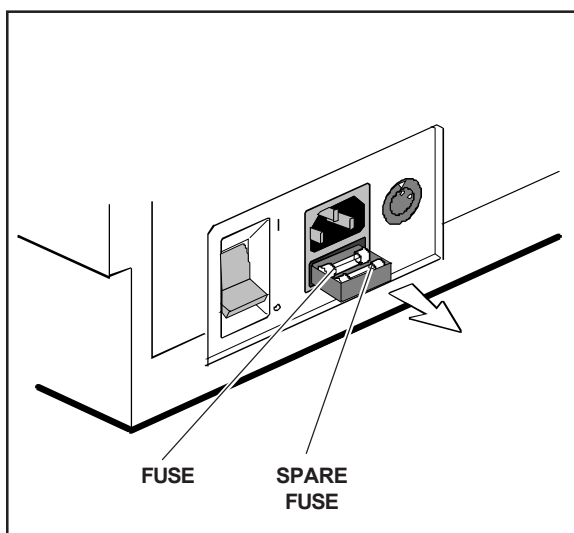

Figure 2-8. Locating the Fuse Compartment
3. Slide open the fuse compartment, as shown in figure 2-8, and check the innermost fuse (the other fuse is a spare).